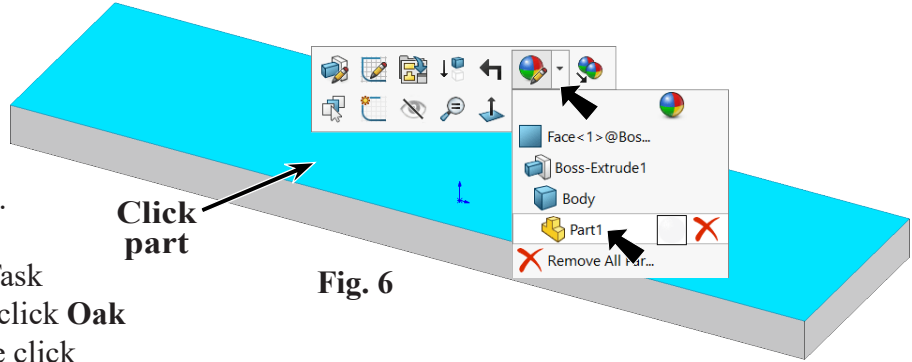

Fig. 6
Step 1. Click the part, click **Appearance Call-out**  on the context toolbar and click **Part** , Fig. 6.